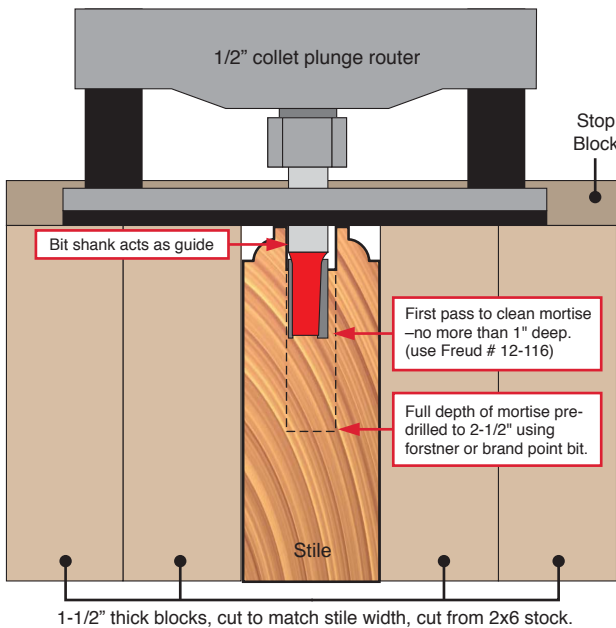

Figure 15
- A third mortising technique combines the use of the drill press and brad point or forstner bits with Freud straight router bits to finish, or "clean out", the mortise. First, use a brad point or forstner bit (5/8" diameter for exterior doors, 3/8" for interior doors) to remove most of the stock for the mortise. Drill the holes as close together as possible. Take care to be sure the holes are perfectly centered in the groove of the stile. Next, build a simple mortising jig as shown below in Figure 15 and 16.